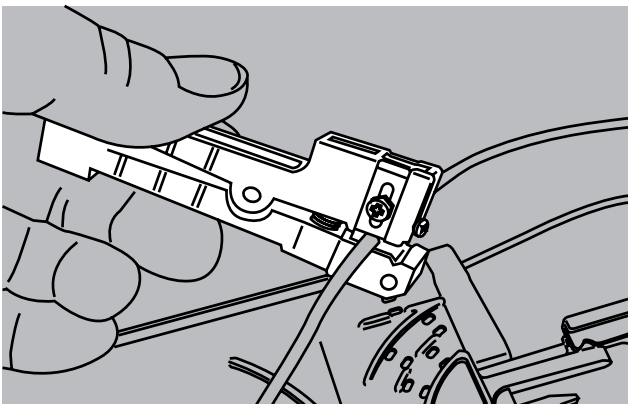

FIGURE 6
6. At the mark, use approved company tools and practice to remove the loose buffer tube to expose the fibres. (Figure 6)